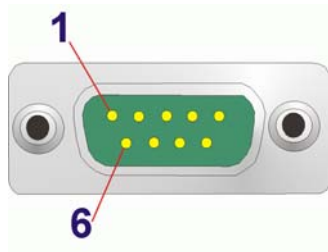

Figure 3-33: RS-232/422/485 Serial Port
- CN Pinouts:** See **Table 3-4** and **Figure 3-33**